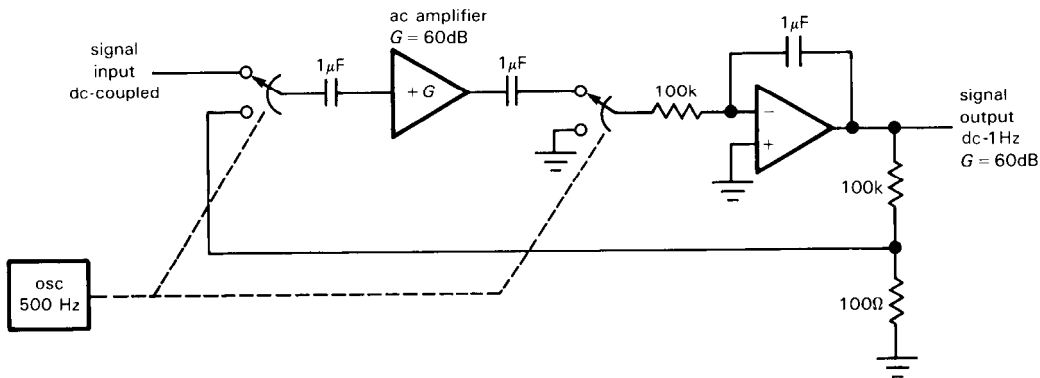

Figure 7.21. An ac-coupled chopper amplifier.
□ *ac-coupled “chopper amp.”* When considering auto-zeroing chopper amplifiers, be sure you don't confuse this technique with another “chopper” technique, namely the traditional low-bandwidth chopper amplifier in which a small dc signal is converted to ac (“chopped”) at a known frequency, amplified in ac-coupled amplifiers, then finally demodulated by multiplying with the same waveform used to chop the signal initially (Fig. 7.21). This scheme is quite different from the full-bandwidth auto-zeroing technique we've been considering, in that it rolls off at signal frequencies approaching the clock frequency, typically just a few hundred hertz. You sometimes see it used in chart recorders and other low-frequency instrumentation.